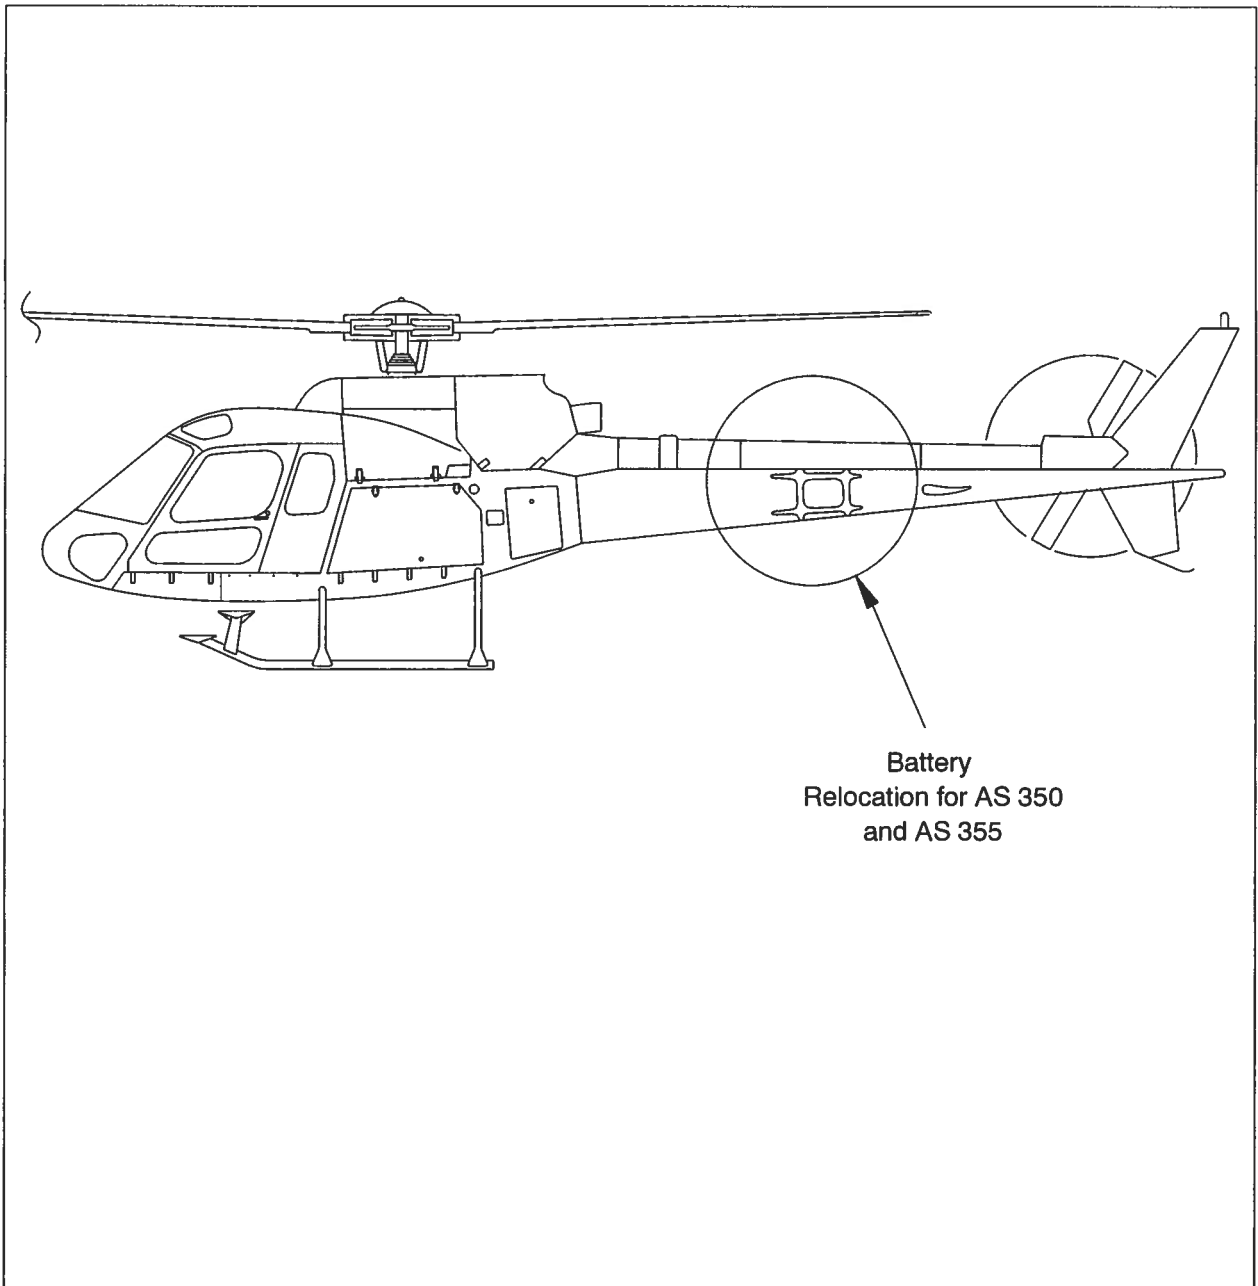

Figure 1 General Layout
- A. The existing nickel cadmium battery (15 Ah) is removed from the RH cargo compartment and a high capacity nickel cadmium battery (22 Ah) or a lead-acid battery (28 Ah) is installed in the tail boom. This eliminates or reduces the need for tail boom ballast and increases the usable volume in the RH cargo compartment. The battery is mounted on a removable tray and is accessible through a cutout approximately 300 mm wide x 420 mm long (11.8 in. wide x 16.5 in. long) in the LH side of the tail boom skin between STN's A 1578 and A 2295. The cutout is locally reinforced by the addition of externally mounted sheet metal doublers. The battery can be accessed through a composite door attached to the tail boom with two hinges and secured with two latches. With this revision a new battery access door fabricated from carbon fibre is available. Refer to Figures 1 and 2.